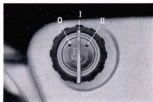

Fig. 8
3. Turn the switch key to position "1". (Fig. 8)